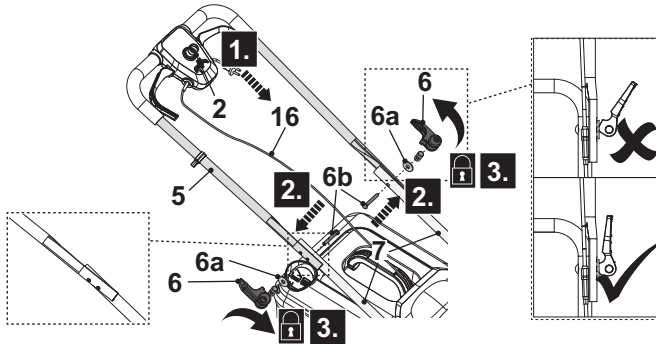

Fig. 3
4. Hold the upper handle bar (5) with the safety switch button (2) facing upwards. Align the mounting holes of the upper handle bar (5) and the lower handle bars (7) (Fig. 3, step 1).
5. Pass the mounting bolt (6b) through the mounting holes to the end (Fig. 3, step 2).